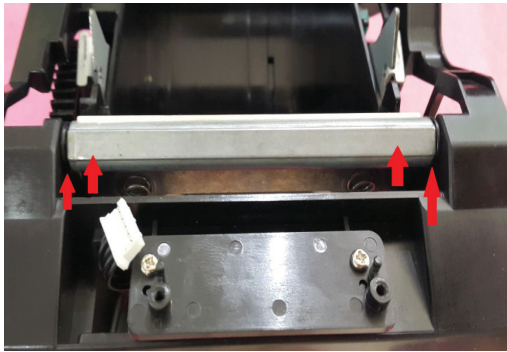

Fig 23
- 1) At lower cutter, push the cutter from the chassis. Ref Fig 23